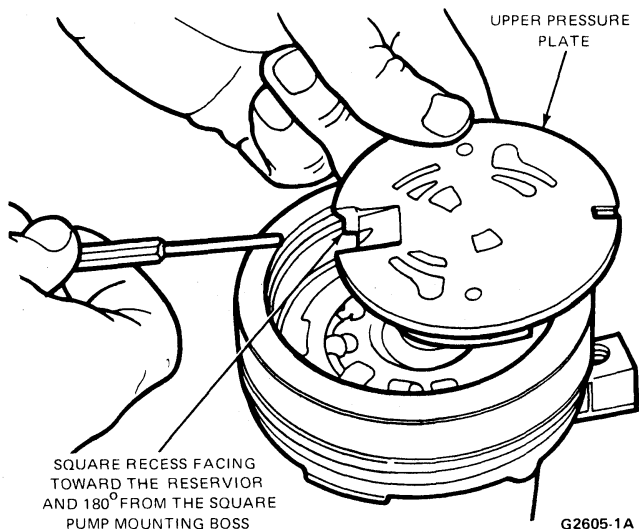

FIG. 24 Installing Upper Pressure Plate
13. Place the upper pressure plate over the dowel pins (Fig. 24). When installing the upper plate into the pump housing, observe the notch on the outside